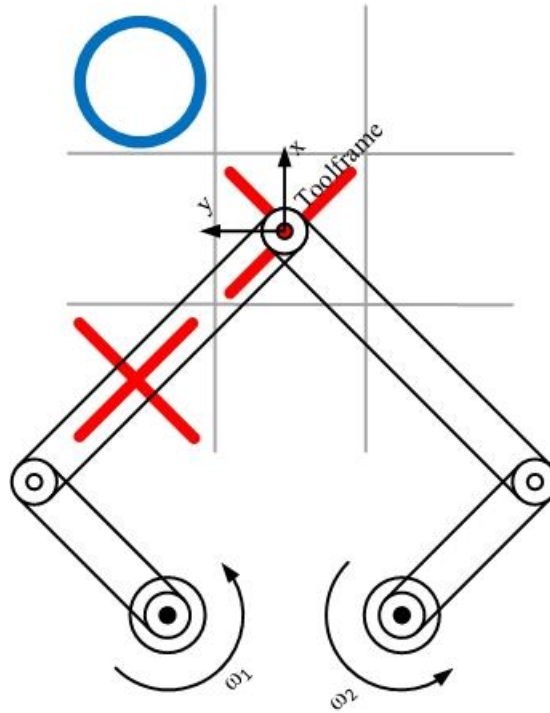
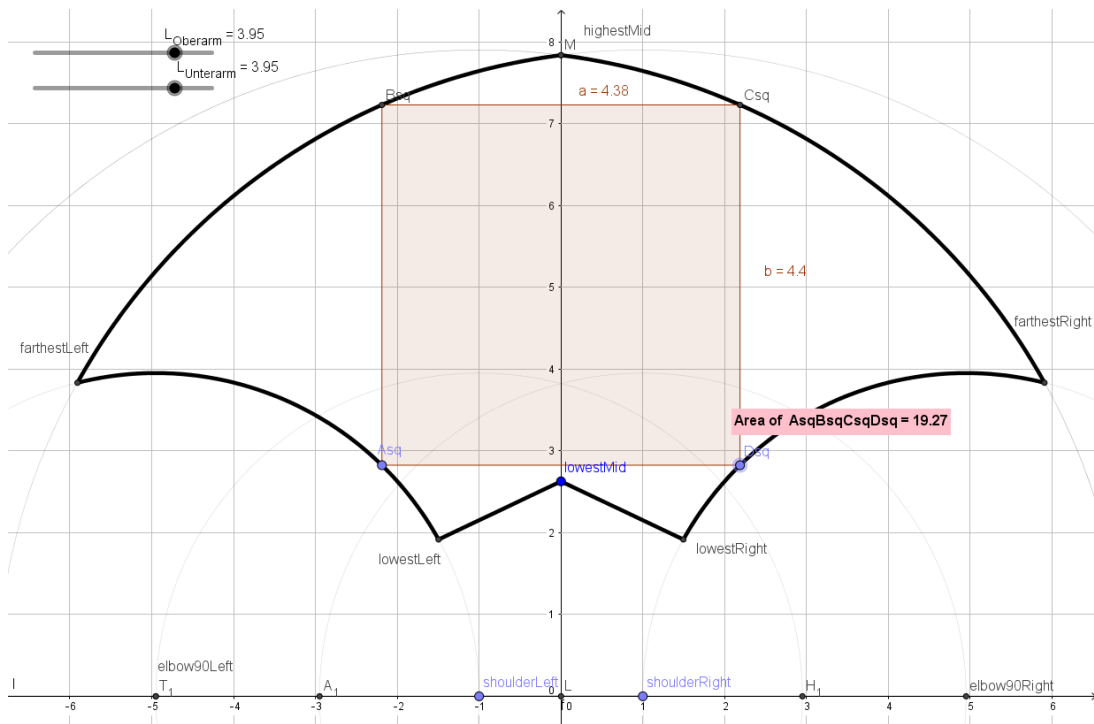

Figure 1: Manipulator Setup
Figure 2: Manipulator Dimensions Design
The robot will control the movement of a whiteboard marker using two servos. The pen will be set up in a construction which has two shoulder and two elbow joints, so it can be moved to a defined x-y-position. The two wrists are connected and the pen is mounted there. This makes it possible to move the pen with only two servos on the shoulder joints. The setup is shown in Figure 1. The whiteboard is mounted in a fixed position next to the manipulator.
- a. Find the right dimensions of the robot arms (see Figure 2)
A sketch of the manipulator setup is shown in Figure 1. We modified the lengths of the robotic arms and looked for the parameters, for which the largest square fits inside the area the robot can cover. This is shown in Figure 2.